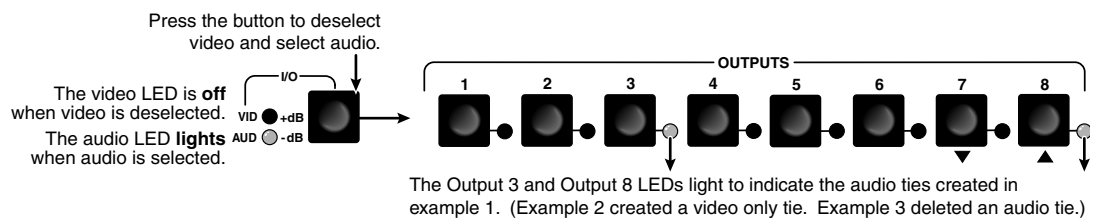

Figure 3-21 — Deselect video and select audio to view audio only
- Press and release the I/O button (figure 3-21).